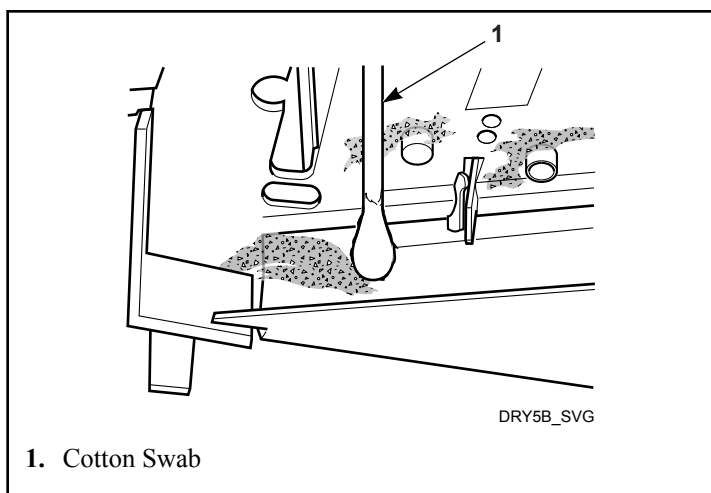

Figure 26
8. Check coin path in coin drop for lint and esidue. If lint or light residues are present, use a cotton swab to remove. If heavy residue is present, it may be necessary to first scrape off excessive residue and then use a cotton swab dipped in water or isopropyl alcohol (rubbing alcohol) to remove remainder of residue. Refer to *Figure 26*.